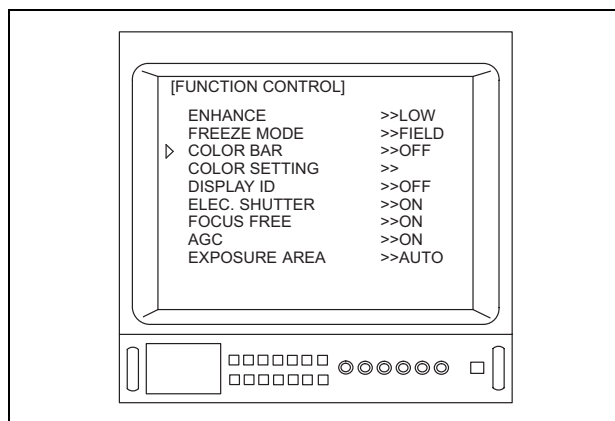

Figure 5.15
4. Depress the menu switches “◀” or “▶”, or the “↑/↓/←/→” key on the keyboard to move the arrow “▷” to “COLOR BAR” (see Figure 5.15).
- When the OTV-S7V is connected to the ENF-V, CYF-V/VA or HYF-V, “ELEC. SHUTTER” and “EXPOSURE AREA” shown in Figures 5.15, 5.16 and/or 5.17 are not displayed.
- When the OTV-S7V is connected to the LTF-V3 or A500**A series, “EXPOSURE AREA” shown in Figures 5.15, 5.16 and/or 5.17 is not displayed.
- When the OTV-S7V is connected to a camera head without the focus free function, or to a videoscope, “FOCUS FREE” shown in Figures 5.15, 5.16 and/or 5.17 is not displayed.
- Depending upon the OTV-S7V’s settings, the menus shown in Figures 5.15, 5.16 and/or 5.17 may appear different from those displayed on the video monitor.